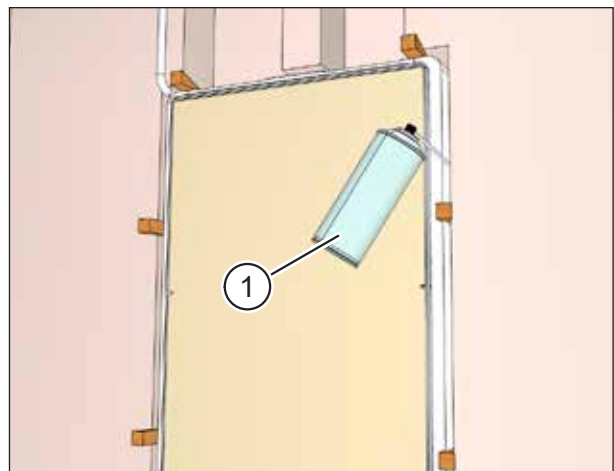

Fig. 26: Filling gaps around the wall box with foam
- ▶ Fill the gaps between the wall box and wall breakthrough all around and continuously with expanding foam (item 1 in Fig. 26) or using another suitable filling material.